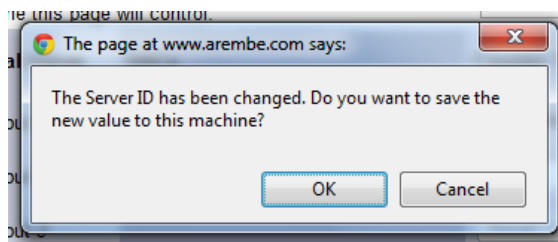

Figure 2-8, Server ID Changed Dialog
- 5) Click in the Password box. The page will now display a prompt, figure 2-8.